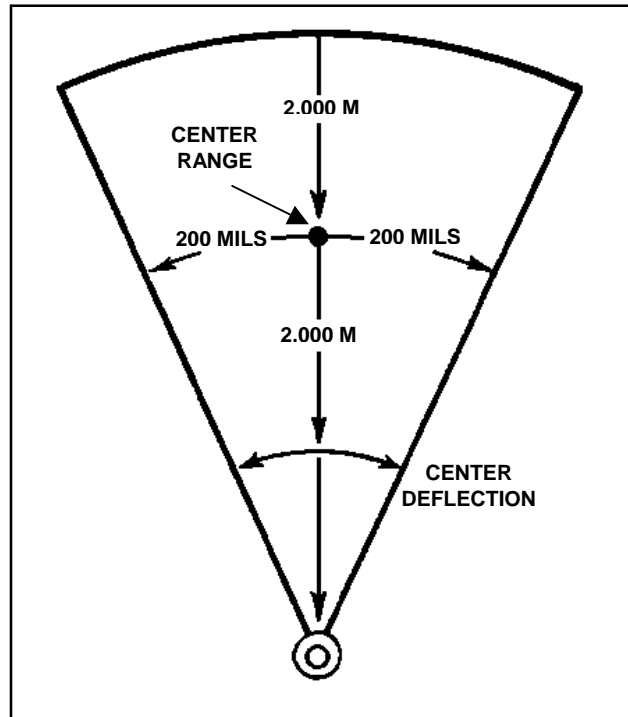

Figure E-5. Transfer limits of TMPCs.
d. The TMPCs are most accurate at the range and direction for which they were computed. They are considered valid 2,000 meters over and short of the center range and 200 mils left and right of the center azimuth of the sector (Figure E-5).